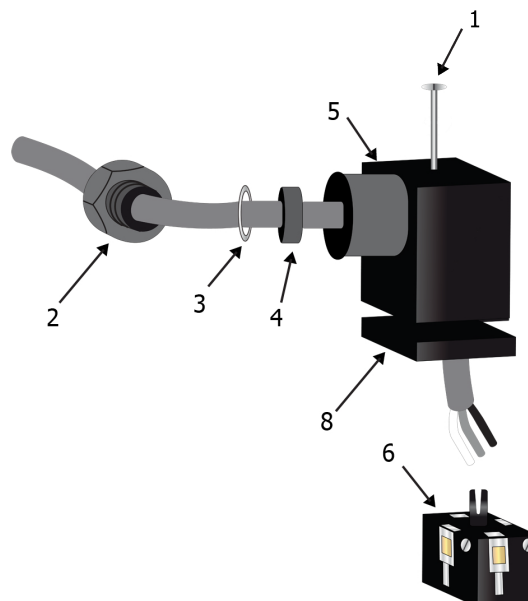

Figure 19 Pressure Transmitter Connector
- b. When the connector is unplugged from the transmitter, remove the central screw (1) (*Figure 19*) completely.
- c. Remove the gasket (8) (*Figure 19*) from the connector.
- e. Ensure that the outer diameter of the cable selected matches the outer housing’s cable gland. To ensure that full ingress protection is achieved, the sensor cable used must have a minimum diameter of 4.6mm (0.18”). Slide the cable through the cable gland nut (2), washer (3), gland seal (4) and outer housing (5) (*Figure 19*).
- f. Apply crimps/wire ferrules to the flying leads of the cable. Connect these leads to the screw terminals on the terminal block (6) in accordance with the following pin-assignment drawing. Pin designations are marked adjacent to each pin.
- h. Tighten the cable gland (2) (*Figure 19*) around the cable. Ensure that the sealing is not damaged and that the cable gland and seals are assembled correctly in order to ensure ingress protection.
- i. Slide the terminal block (6) onto the connection pins on the transmitter.